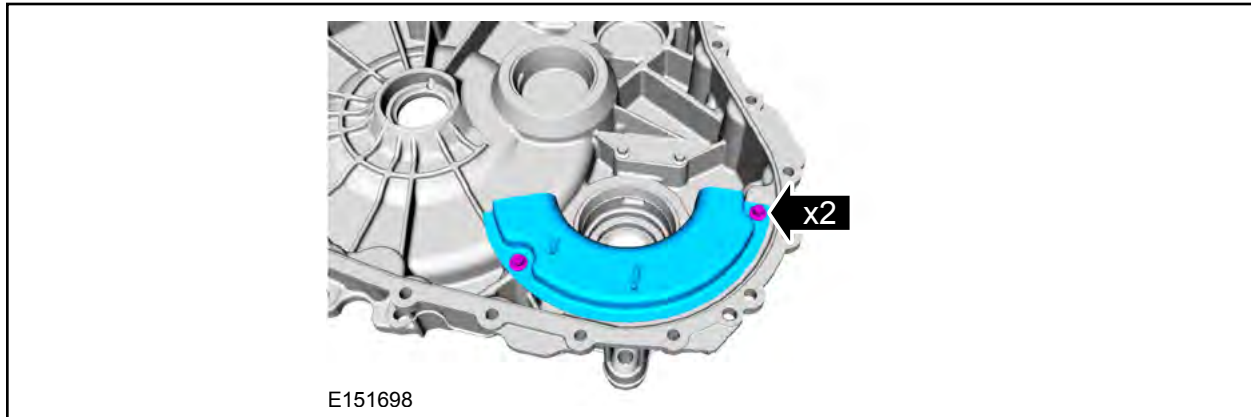

FIGURE 6
3. Remove the retainers and the transmission fluid oil sump baffle. See Figure 6.